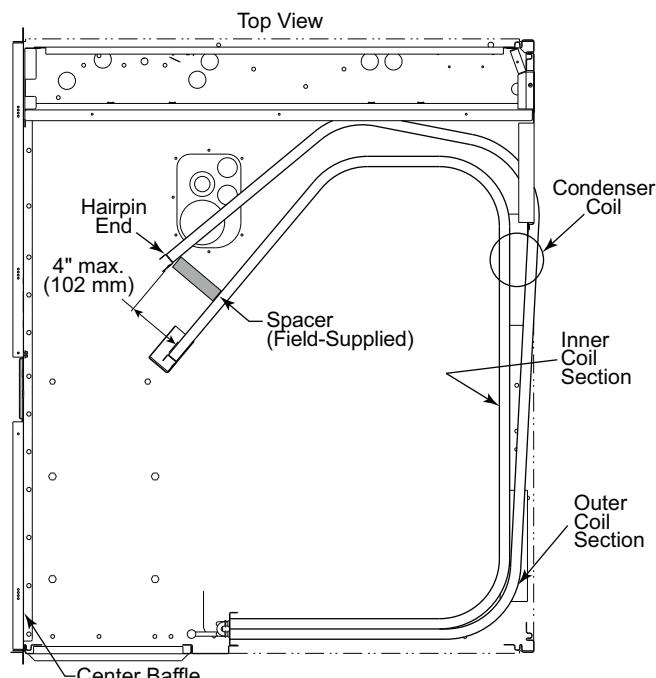

Fig. 18 – Separating Coil Sections
8. Insert a spacer (field-supplied) between the tube sheets to hold the coils apart. See Fig. 18.